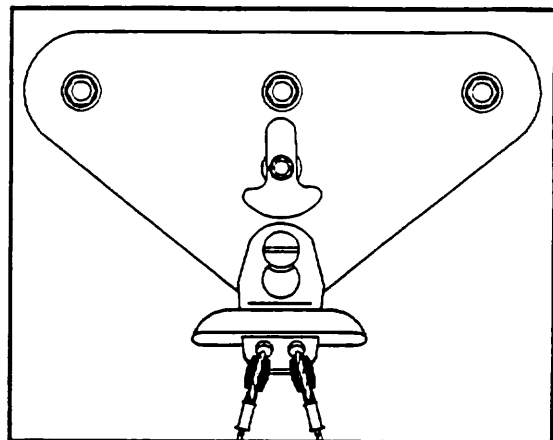

Figure 25
b) After the tang is installed, slid back and fully engaged on the collared bolt, rotate the anchor to the position shown in figure 25 to secure the tang. With the anchor in this position, the tang cannot move forward sufficiently to disengage from the bolt.